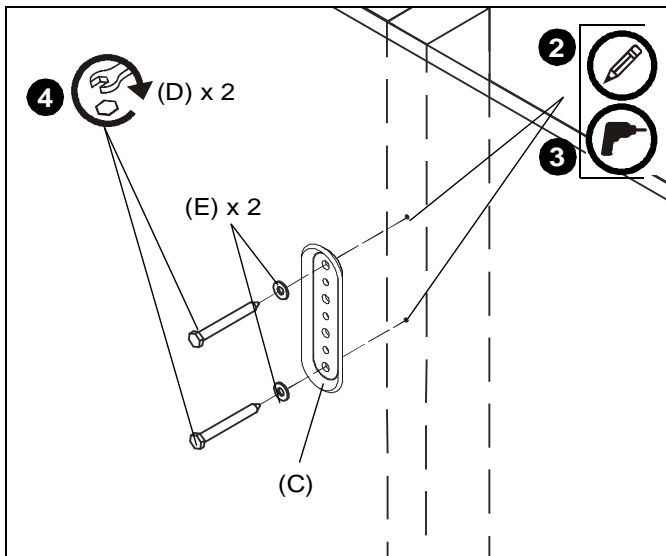

Figure 1
2. Using bracket (C) as a template, mark location of two pilot holes. Use upper and lower holes in bracket (C). (See Figure 1)
3. Drill two 1/8" diameter pilot holes in mounting structure at marked locations. (See Figure 1) Ensure pilot holes are straight.
4. Install 1/4" x 2 1/2" hex head lag screws (D) through washers (E), bracket (C), and drywall into wood stud. (See Figure 1) Ensure bracket (C) is vertical, then tighten screws (D).